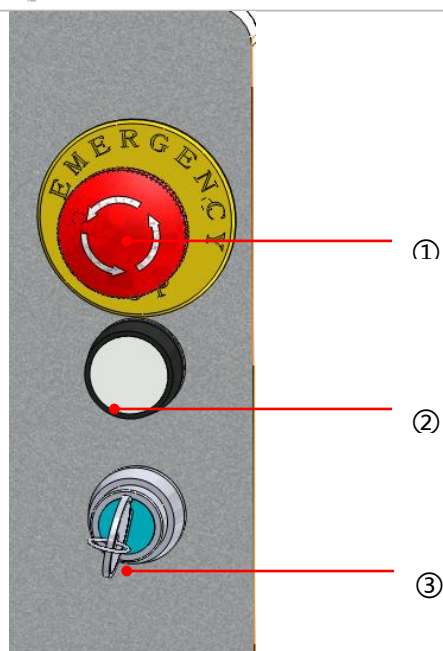

Fig.1-2 Control Buttons
- The operation panel is as shown in Fig. 1-2 :